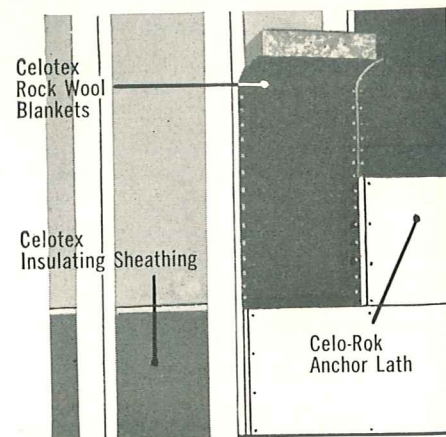

Fig. 2
2. Use Celotex Insulating Sheathing *plus* Celotex Rock Wool Blankets (Fig. 2). While this construction adds another material, and therefore another cost, it gives you extra high insulating efficiency. And it pays lifetime dividends in comfort and fuel savings.
Where this dry wall method is used, insulation in exterior walls and top-floor ceilings should be included by: (1) using Celotex Insulating Sheathing on the outside of the wall, or (2) installing Celotex Rock Wool Blankets between wall studs and ceiling joists for additional insulation, or (3) using Celotex Building Board behind the gypsum wallboard to make the "double" dry wall shown in Fig. 2.